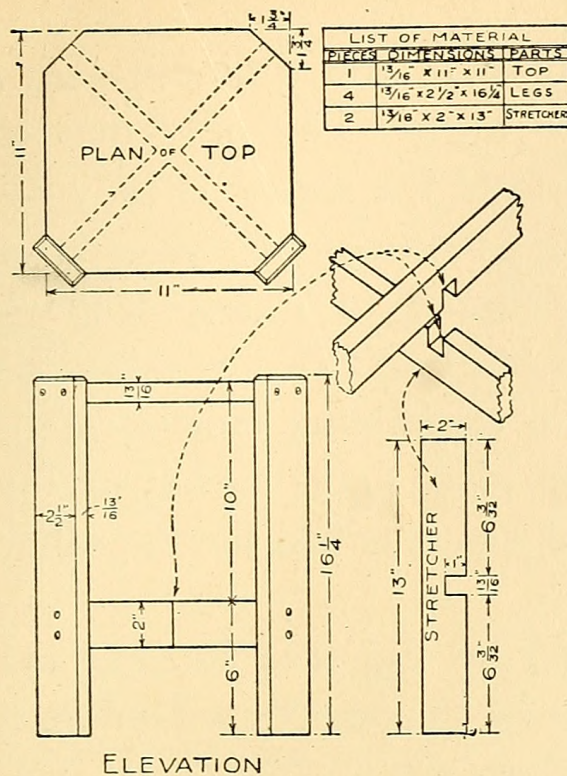

FIG. 126. — Details of Tabouret shown in Fig. 122.
**The Tabouret** shown in Fig. 122 (Fig. 126), first plane up the piece to the proper dimensions, then mark off the triangular pieces which are to be removed from the